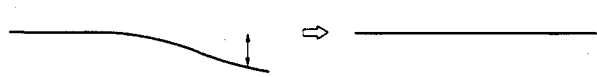

Fig. 5-2
- Adjust RV1, CV2 and CV3 of the BG board so that the output waveform becomes flat in a range of 0 to 10MHz as shown in Fig. 5-2. (within $0 \pm 0.5\text{dB}$)